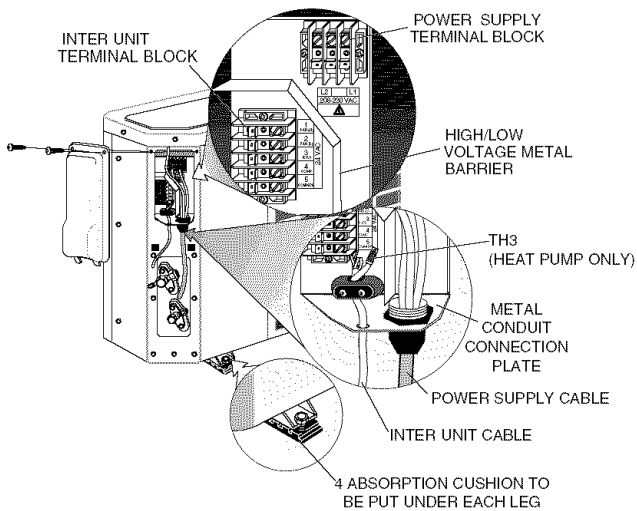

Fig. 11 — Location of Legs on Base — Outdoor Units
2. Fasten the outdoor unit legs to the mounting base, as shown in Fig. 11. The absorption cushions go between the legs and the mounting base.
6. Secure the inter-unit electric and sensor cable to the outdoor unit with the clamp shown in Fig. 11.